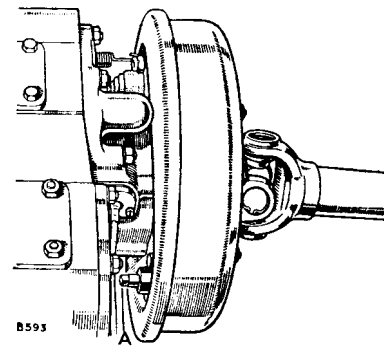

Fig. 80. Transmission brake adjustment
- (1) Release the hand brake.
- (2) Adjustment is made by means of the adjuster wedge spindle (A) (Fig. 80) protruding from the front of the brake back-plate, accessible from beneath the vehicle; during rotation of the adjuster a click will be felt and heard at each quarter revolution.
- (3) Rotate the spindle as far as possible in a clockwise direction, i.e. until the brake shoes contact the drum.
- (4) Then unscrew the adjuster two clicks and give the brake a firm application to centralize the shoes; the brake drum should now be quite free to rotate.
- (5) No other adjustment to the hand brake system is necessary to compensate for lining wear.